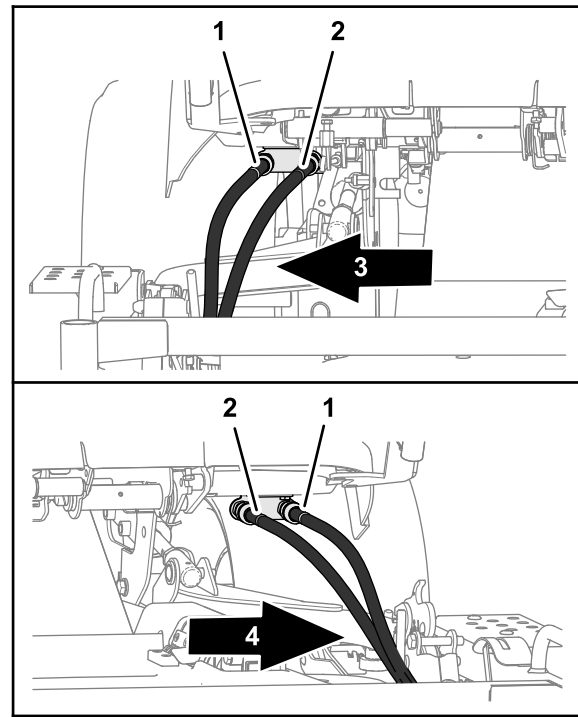

Figure 114
4. Disconnect the hydraulic hoses from each side of the traction unit (Figure 114).
a blue identifier); refer to Figure 114 in Removing the Mower Deck (page 75).
- B. Connect the hydraulic hose marked with a red identifier to the outboard quick-disconnect coupler (marked with a red identifier); refer to Figure 114 in Removing the Mower Deck (page 75).